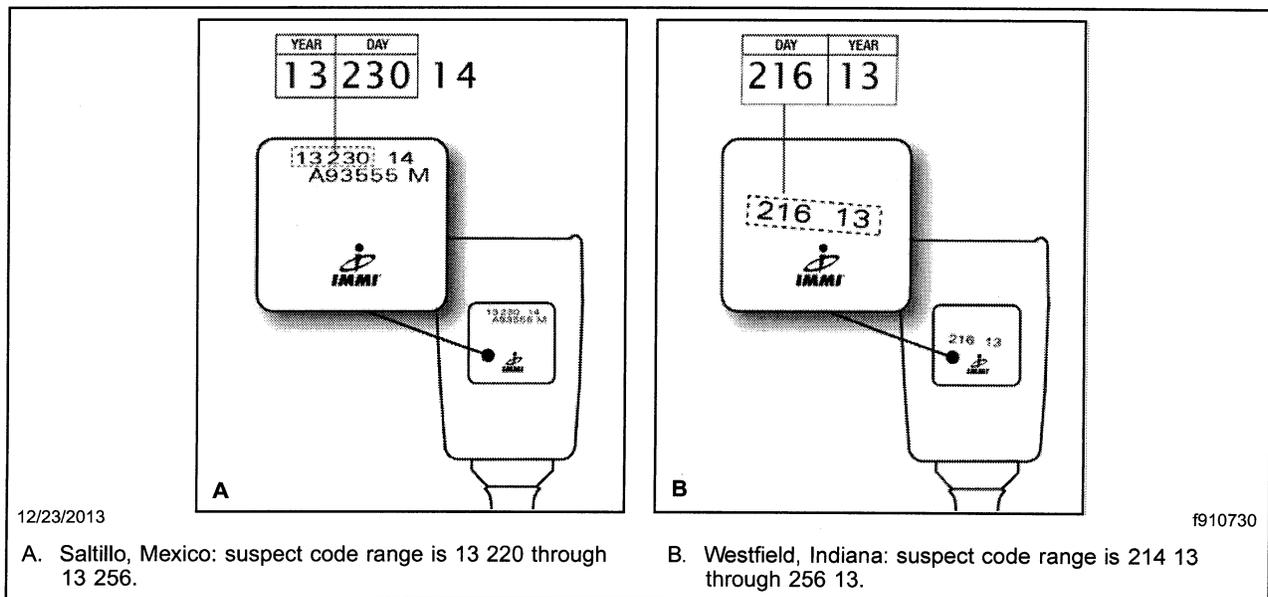

Fig. 3, Buckle Date Code Ranges
5. If the buckle is an IMMI L9 buckle, check the back of the housing for the date code. See **Fig. 3**.
If the date code is included in the ranges shown in **Fig. 3**, the buckle needs to be replaced. If the date code is outside these ranges, the buckle does not need to be replaced.